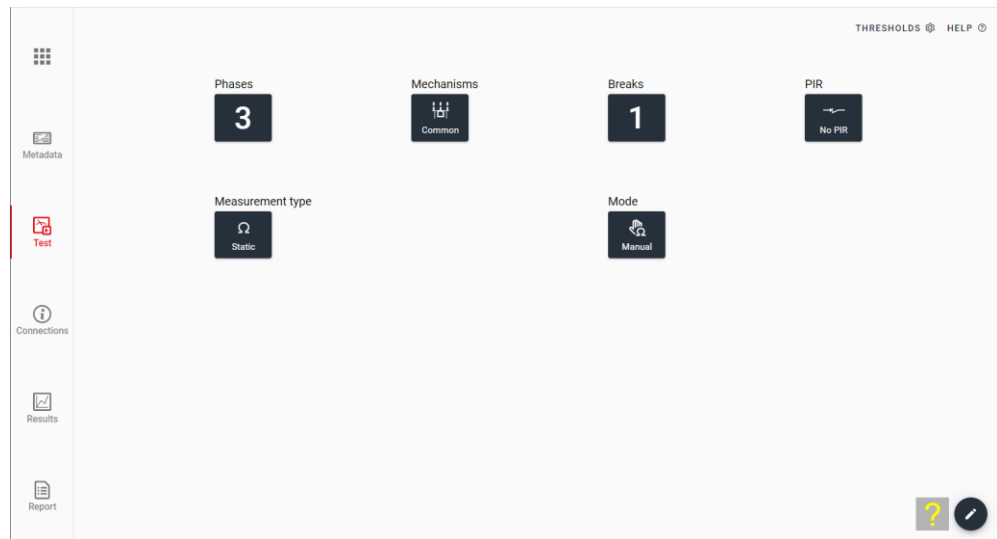

Figure 1: EGIL200 TEST display that appears after powering on the instrument
Upon powering on the EGIL200, the user will discover that the instrument is already prepared to start a test. First select the type of breaker – In the example given – as indicated in the top row of Figure 1 – the breaker has three phases: a common mechanism, one break per phase and no pre-insertion resistors (no PIR).
Step 2 requires selection of the measurement type to perform (row 2 in Figure 1). Press the TEST tab to set up this new measurement. Now the operation type is STATIC and the mode is “Manual”, as this measurement will be made with an external micro-ohmmeter.
In this case insert measured results from measurement done by separate micro-ohmmeter, MOM2 or similar. Then, select STATIC and MANUAL entering the resistance values. For that purpose, push the pen symbol in the lower right corner. (Figure 1)